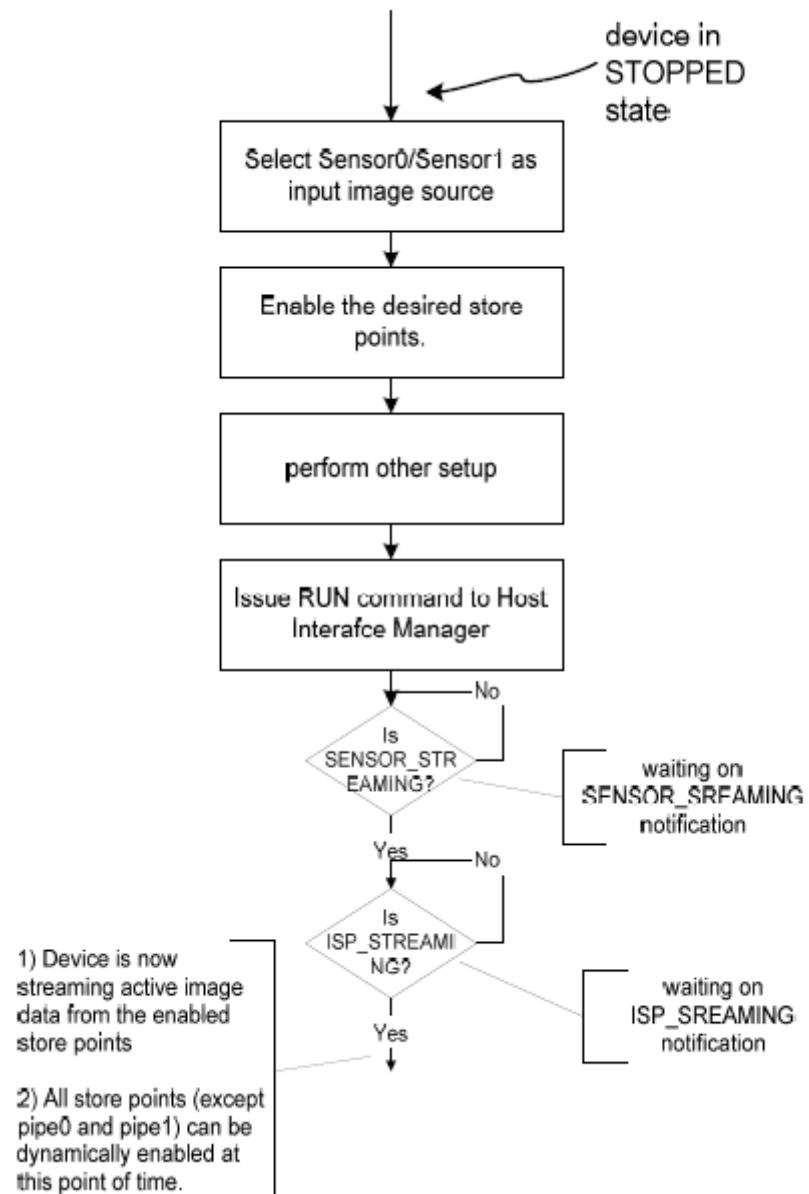

Figure 1 Bayer Memory Store
- This is end of BMS datapath. This is explained in figure:1 as well. Now Host has to run Memory Load streaming Datapath.